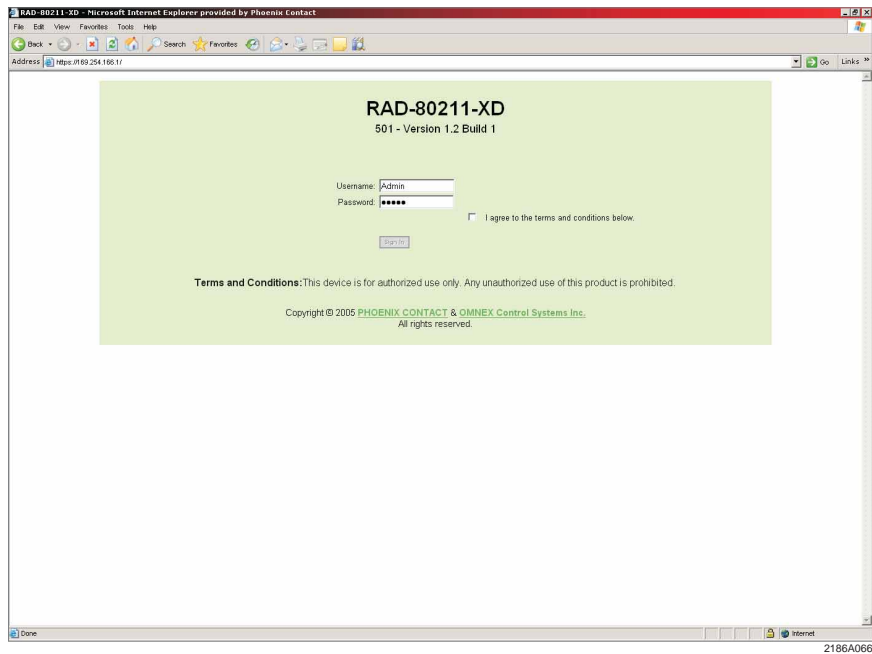

Figure 5-2. RAD-80211-XD Sign In Menu
4. Agree to the terms and conditions and click **Sign In**. See Figure 5-2